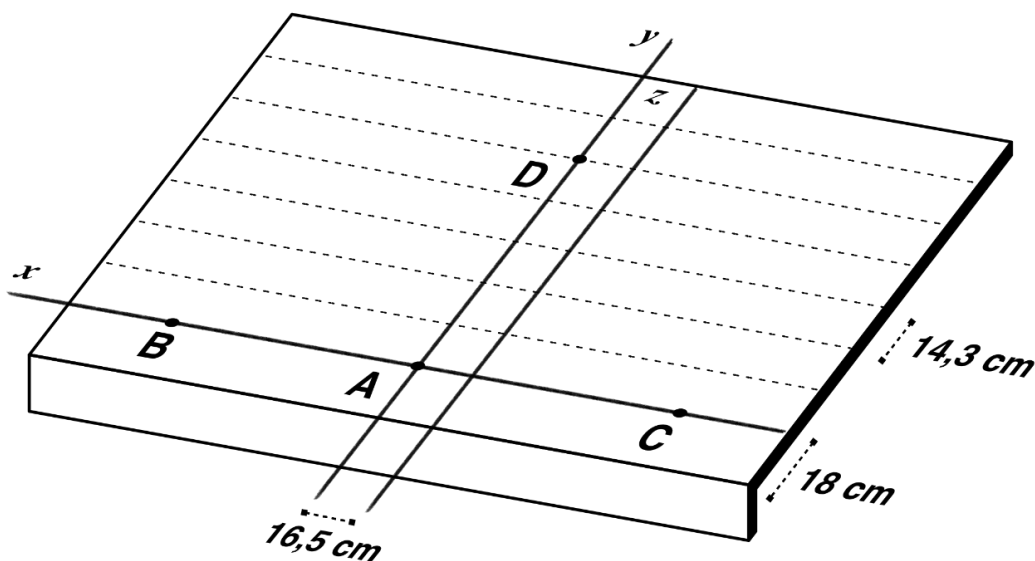

Fig. 3 - Tracing of the pitch [cm]
- Draw horizontal lines parallel to **x**, each one distant 14,3 cm from the previous, until you reach the ridge - see Fig. 3.